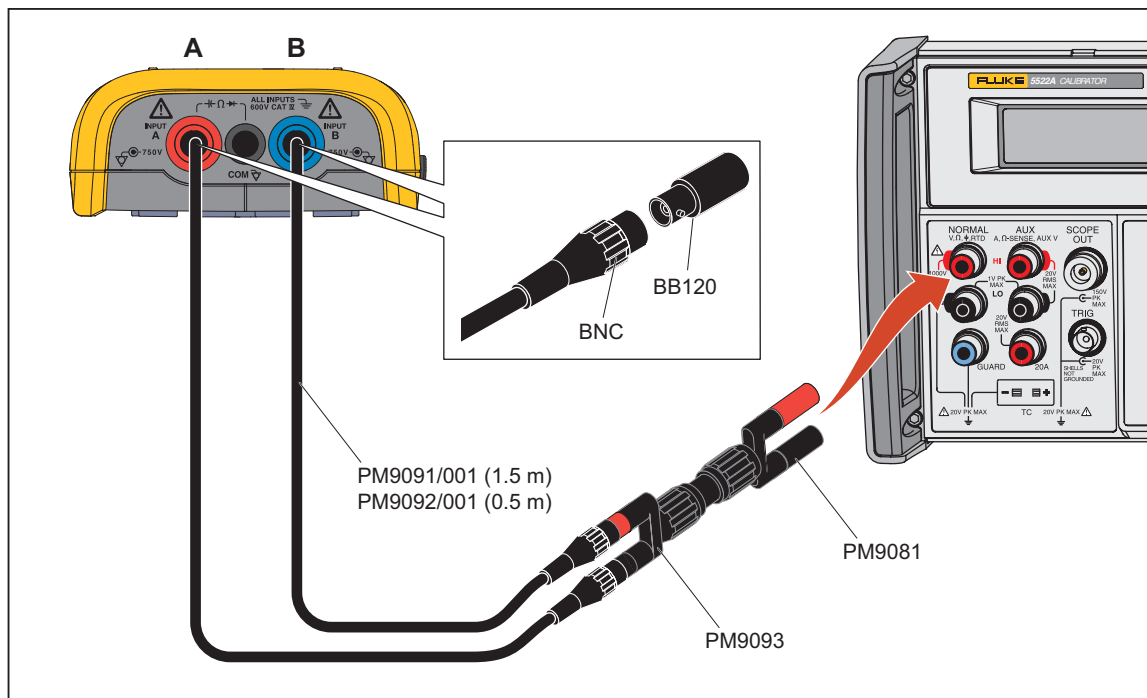

Figure 6. Test Tool Input A-B to Calibrator Normal Output
1. Connect the test tool to the Calibrator. See Figure 6.
1. Connect the Test Tool to the Calibrator. See Figure 6.